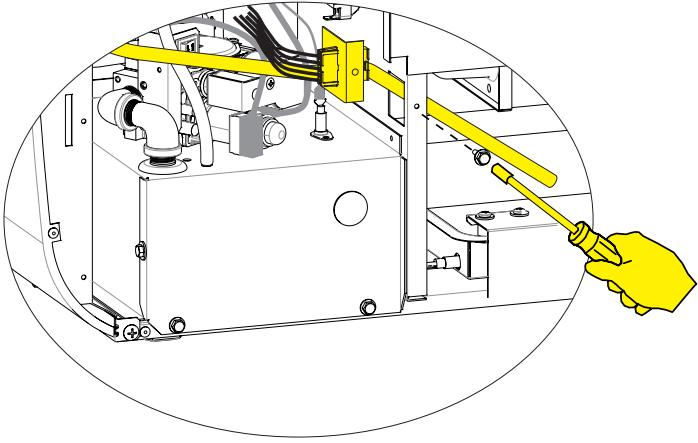

Figure 9
12. Insert the straight end of the metal condensate tube into the partition panel and secure the condensate tube bracket with the screw removed in step 10. Ensure that the condensate tube discharges into the heated tray in front of the heat exchanger tubes, and that the "L" shaped end of the tube is pointed into the wall furnace. **See Figure 9.**